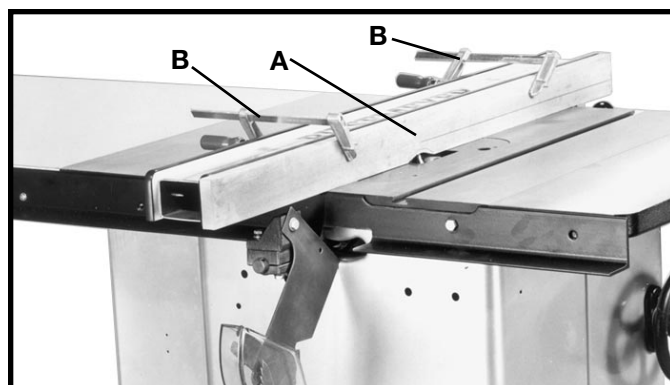

Fig. 20
**CAUTION** It is necessary when performing special operations such as moulding to add wood facing (A) Fig. 20, to one or both sides of the rip fence, as shown. The wood facing is attached to the fence with two clamps (B). 3/4 inch stock is suitable for most work although an occasional job may require 1 inch facing.